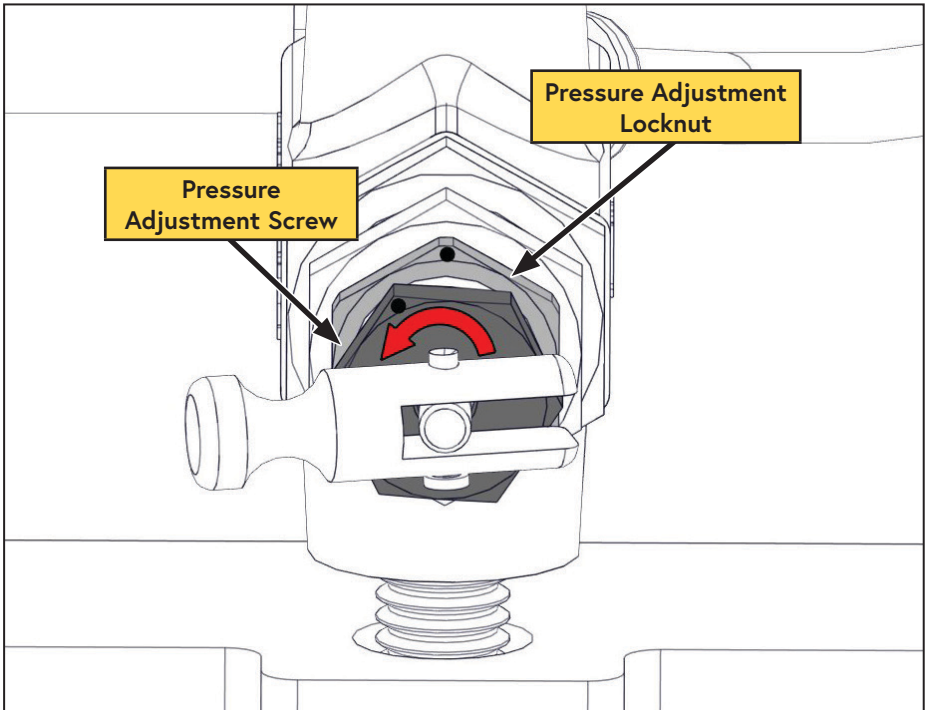

Figure 45 — Adjusting the Unloader Valve
- While securely holding the "Pressure Adjustment Screw", loosen the "Pressure Adjustment Locknut" (Figure 45).